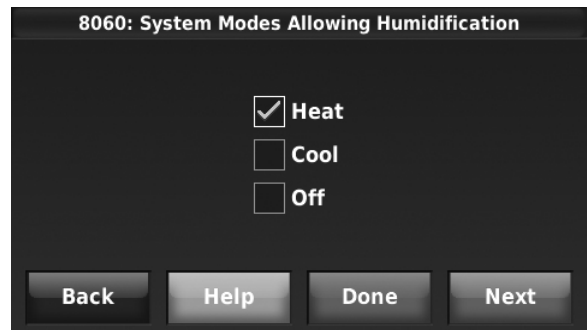

Fig. 212.
- Select the system mode(s) to allow humidification. See Fig. 212.